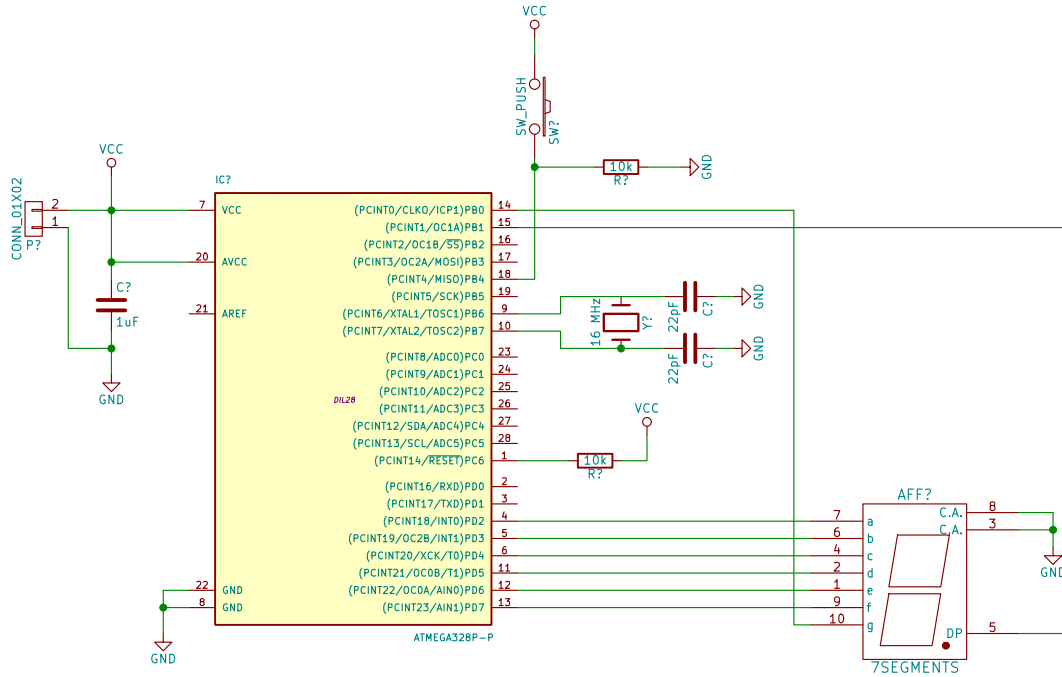

Figure 6: Initial schematic drawing of Example 1 circuit.
5. Connect the components together according to Fig. 6 by placing wires between corresponding pins. The components should be arranged to make connecting them together easier with less wire clutter. To start placing a wire, click on the “Place a wire” button, then click on the starting point, and finish by clicking on the endpoint of the wire. It is often easier to use the keyboard shortcut. First move your cursor to the starting point and press the “w” key. A wire is started at the cursor location. Move the cursor to the endpoint and click to finish the connection.